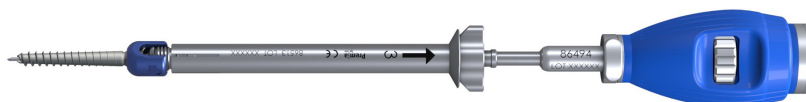

Figure 50: Screw Insertion Using K-Wire Adaptor
- Place the loaded threaded inner shaft back into the K-Wire Adaptor (**Figure 50**).